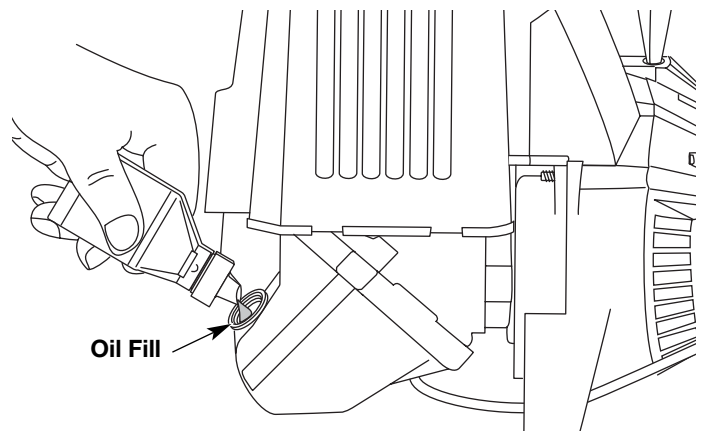

Figure 8
4. Pour the entire bottle of oil into the oil fill hole. See Figure 8.